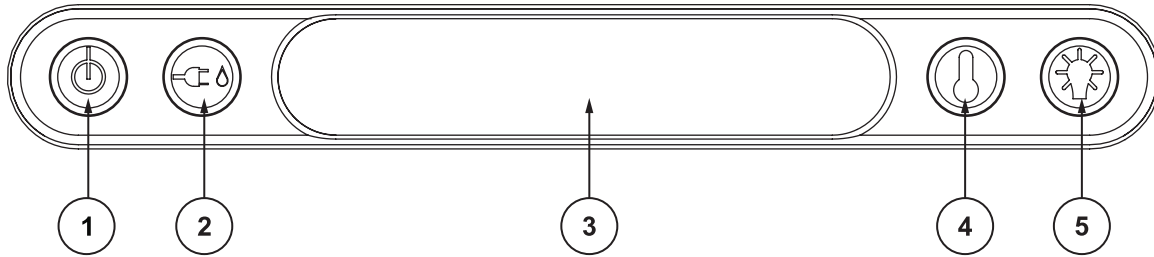

Figure 6-8. —Control panel.
The control panel, illustrated in Figure 6-8, contains the ON/OFF switch button (1), MODE switch button (2), LCD module (3), TEMP SET switch button (4) and LCD brightness button (5).